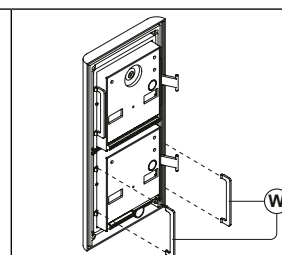

Fig. 6
Fit the anti-tampering locks (W) as shown in **Fig. 6**.